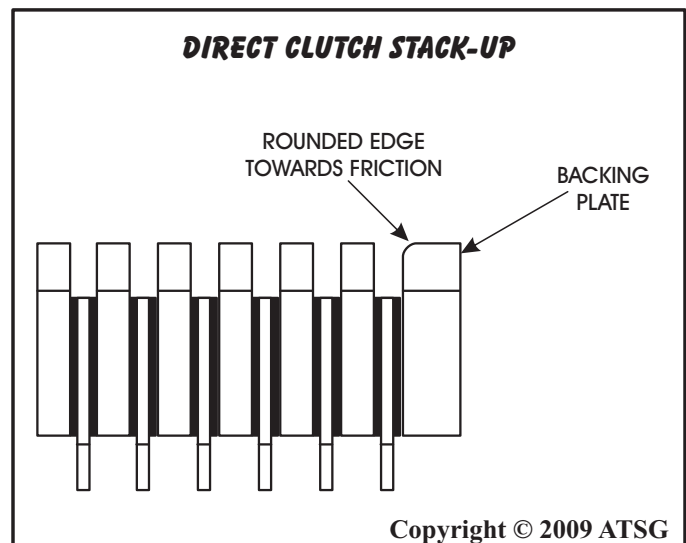

Figure 145
**Note:** Install backing plate with rounded edge facing the friction plate (See Figure 145).